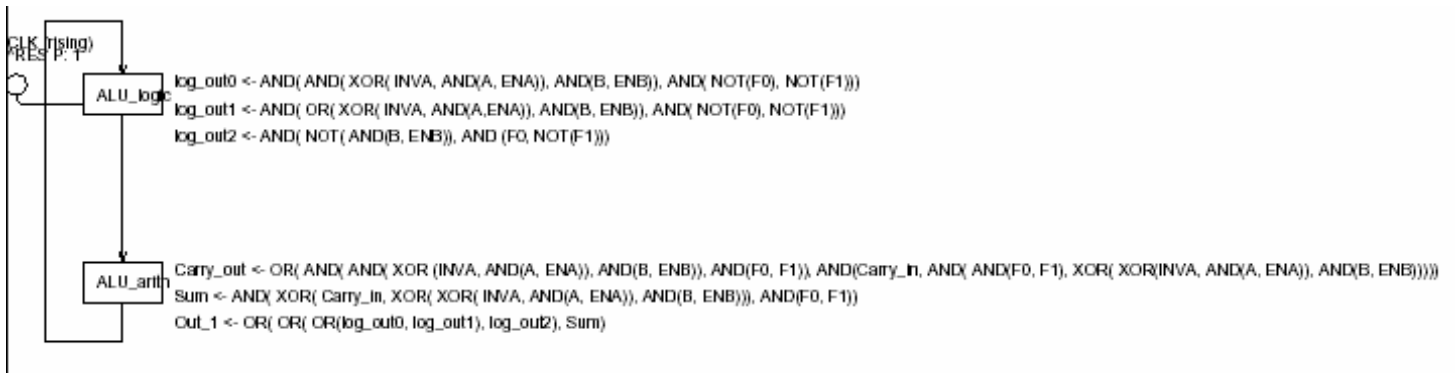

Figure 6. Two-state ASM thread for ALU.
- (3) Draw the diagram for the ALU model, as shown in Figure 6 (also see HW01-491.pdf). You'll note that this model has two states, connected as shown in the figure. The operations defined for each state are indicated as assignment statements, including "nested" macro-functions, which are scheduled for each of the connected states. The set of statements below and to the left of the second state are the assignment expressions associated with the 2nd state.